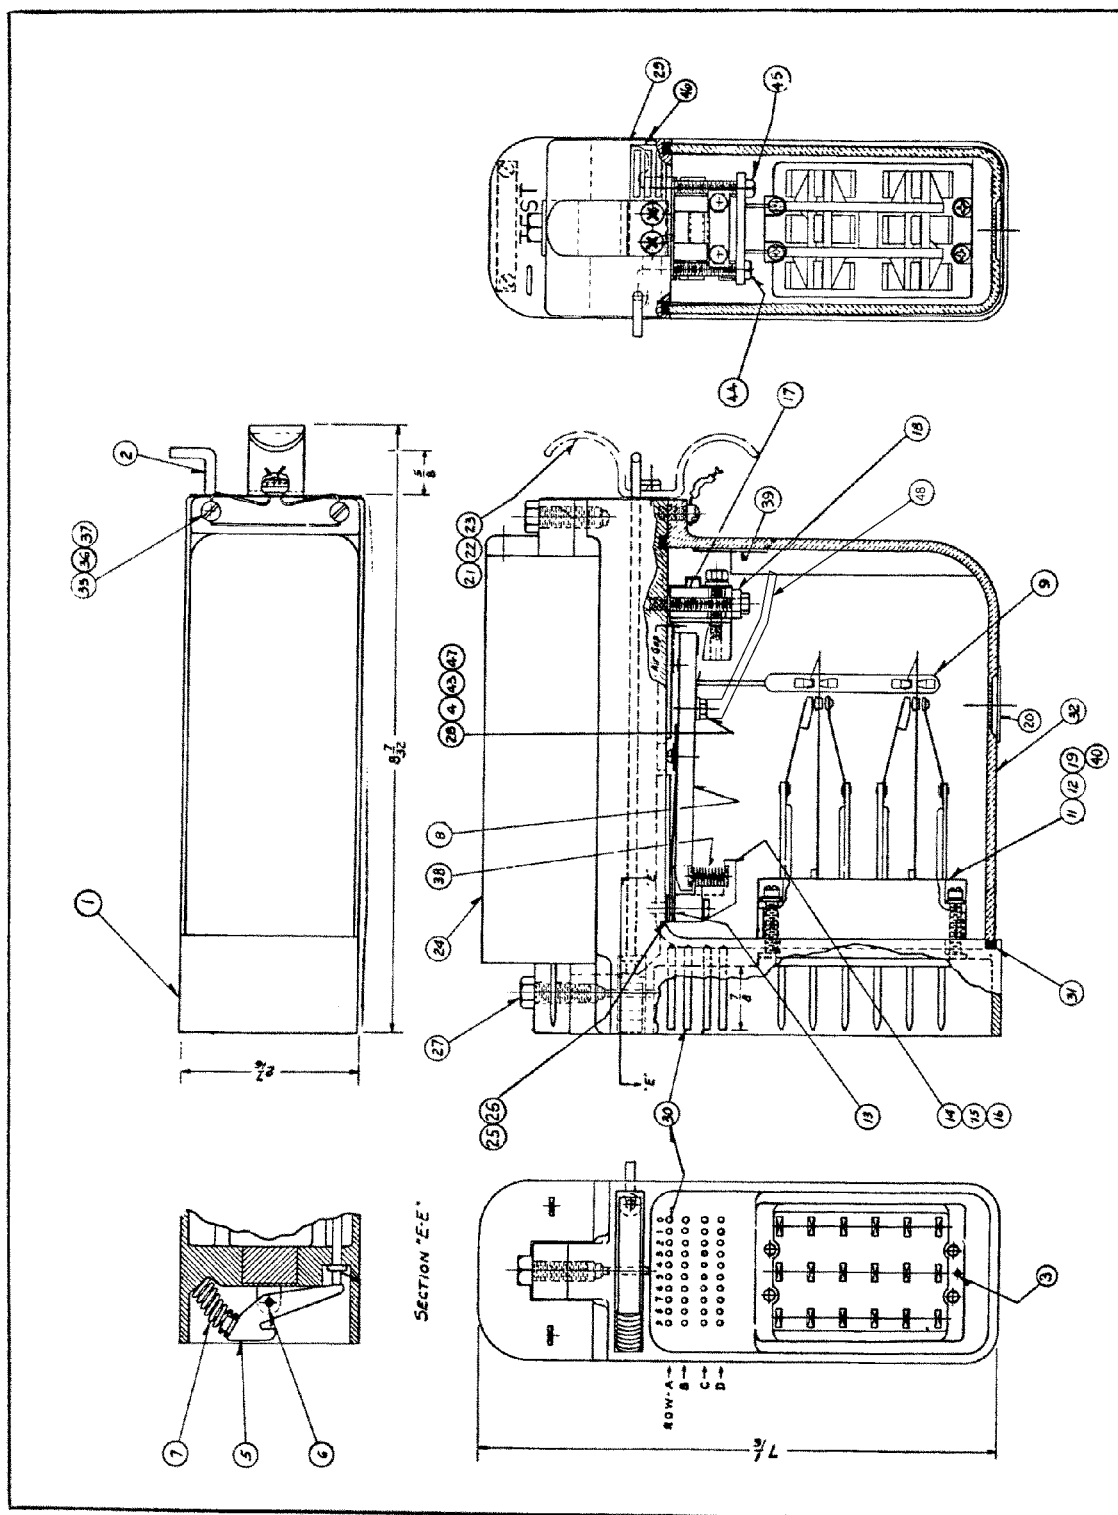

Figure A-3. PN-150B Relays With One Piece Molded Contact Driver
A.3 PARTS LIST FOR PN-150B RELAY WITH ONE PIECE MOLDED DRIVER (FIGURE A-3)
A.3 PARTS LIST FOR PN-150B RELAY WITH 1-PIECE MOLDED DRIVER (FIGURE A-3) (CONTINUED)